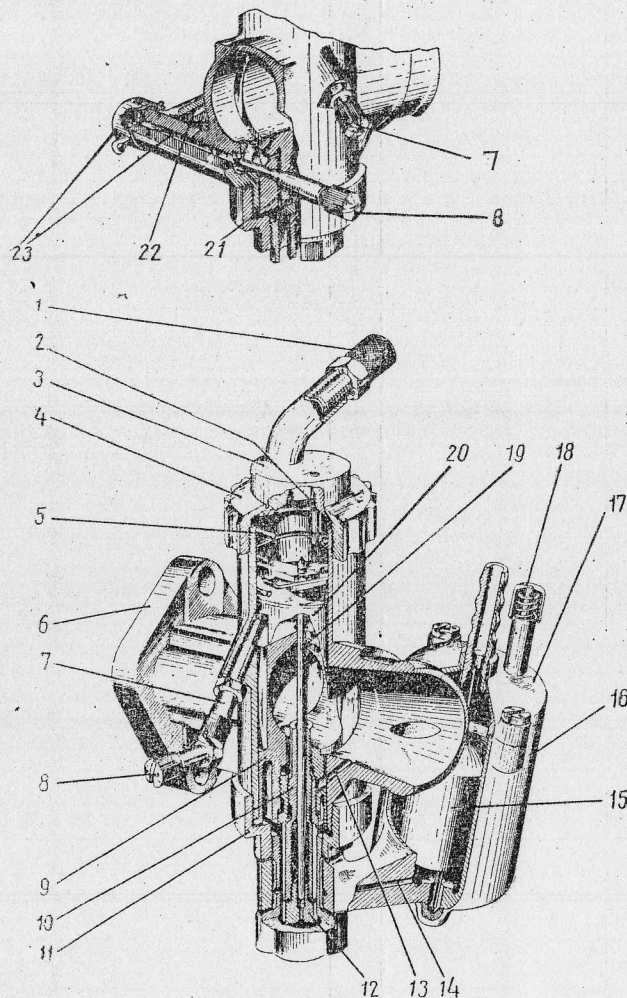

Fig. 10. Carburetter K-38:
Design of the carburetter is illustrated in Fig. 10.
c) slacken locknuts of throttle set screw 7 (see Fig. 10) and of idle speed screw 8, tighten home the idle speed screw. Using set screw 7 set the minimum steady revolutions for the engine;